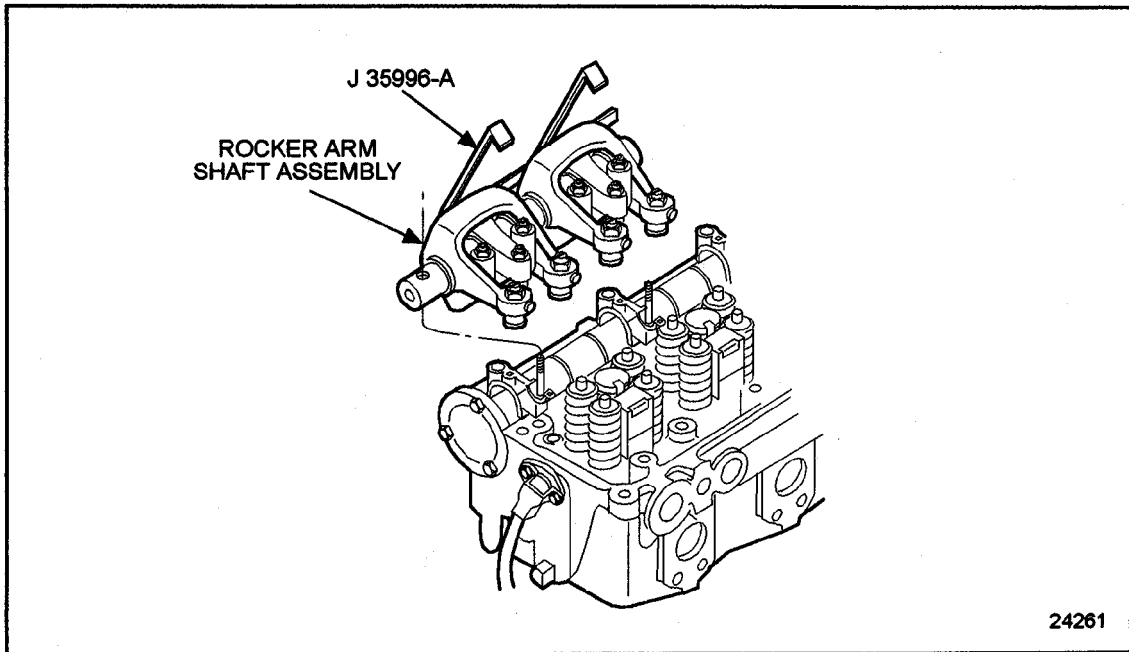

Figure 1-56 Rocker Arm Shaft Assembly Removal
4. Use rocker arm and shaft assembly removal tool, J 35996-A to remove the rocker arm shafts, with rocker arm assemblies in place. See Figure 1-56.